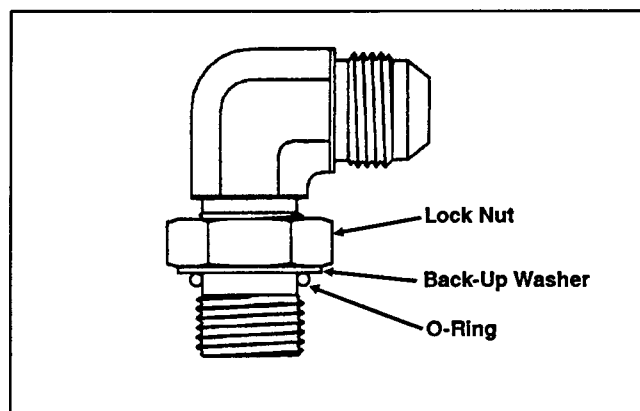

Figure 4
1. Make sure both threads and sealing surfaces are free of burrs, nicks, scratches, or any foreign material (Fig. 4).